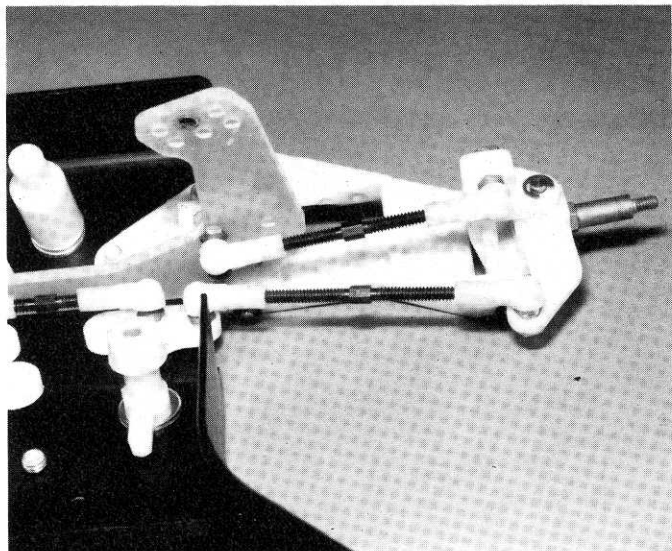

Fig. 26
□ **Fig. 26** Snap the L.H. and R.H. tie rods on, as shown.